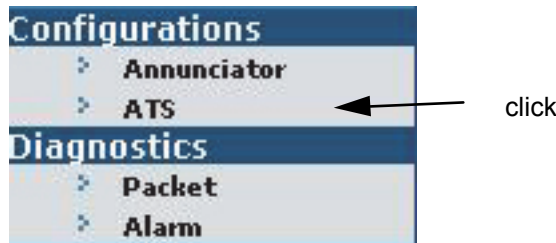

Figure 12: Configurations > ATS
5. On the left pane, under *Configurations*, click *ATS* to configure the ATSs that will be monitored. See Figure 12.